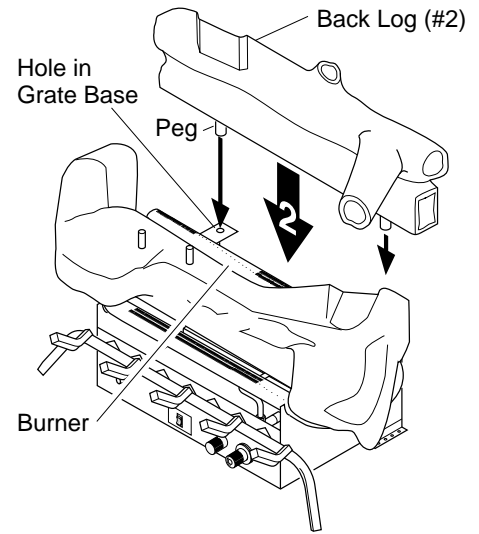

Figure 26 - Installing Back Log (#2)
2. Locate pegs on the bottom of back log (#2). Slide these pegs into the holes in the grate base behind the burner (see Figure 26).